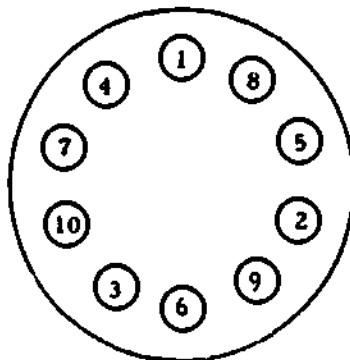

Fig 2-16. Tightening sequence of the fuel pump.
d. **Replacement.** Place the pump and filter assembly in the fuel tank. Be sure the assembly is positioned over the screw holes and is aligned with the fuel and vent line fittings. Start all ten mounting screws with lockwashers by hand. Turn each screw in two or three turns. The mounting screws must be tightened evenly to prevent warping the mounting surfaces and causing a fuel leak. A suggested tightening sequence is shown in figure 2-16. It may be necessary to repeat the tightening sequence several times as shown in the figure. Complete the pump installation by connecting the fuel and vent lines and the electrical connectors.